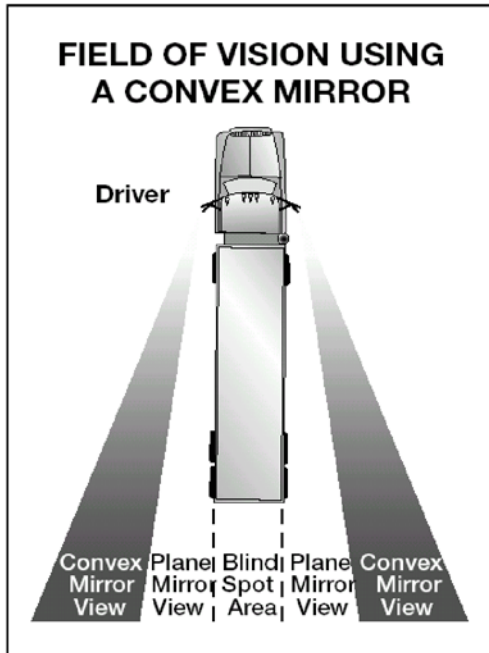

Figure 2.7
- Many large vehicles have curved (convex, "fish-eye," "spot," "bugeye") mirrors that show a wider area than flat mirrors. This is often helpful. But everything appears smaller in a convex mirror than it would if you were looking at it directly. Things also seem farther away than they really are. It's important to realize this and to allow for it. Figure 2.7 shows the field of vision using a convex mir-